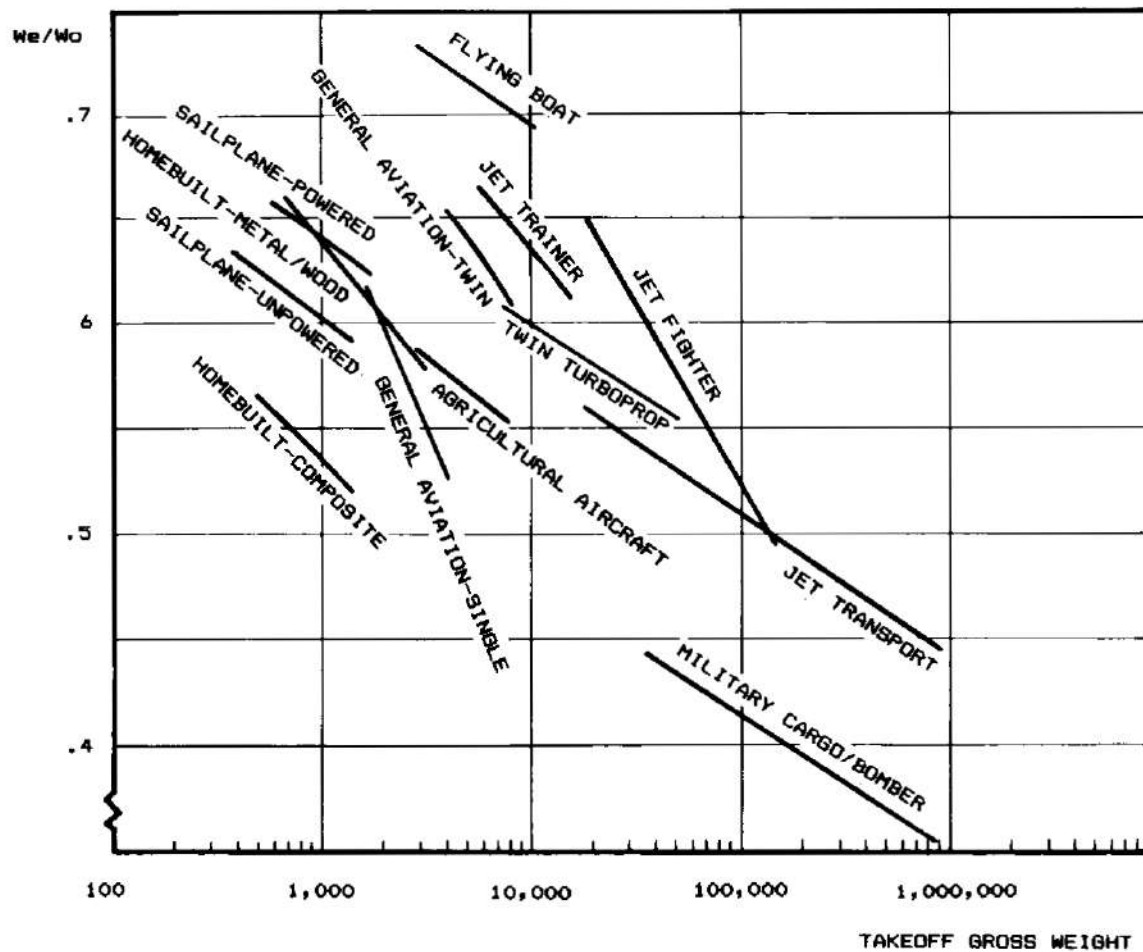

Fig. 3.1 Empty weight fraction trends.
- The empty-weight fraction can be estimated statistically from historical trends as shown in Fig. 3.1.
- Table 3.1 presents statistical curve-fit equations for the trends shown in Fig. 3.1.